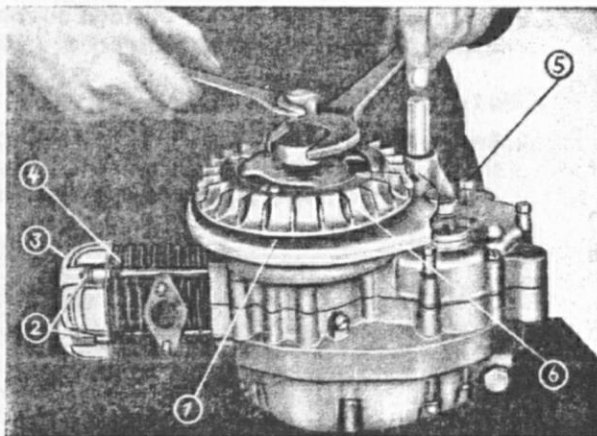

Fig. 3: Extracting the flywheel magneto
3. Detach the flywheel magneto (Fig. 3). Unscrew nut screw on extractor (special tool
1. Unfasten cylinder-head cap screws (Fig. 3/2), lift cylinder-head (Fig. 3/3).
2. Detach cylinder (Fig. 3/4). (Do not allow the piston to knock against the crankcase, as this may damage the piston!)